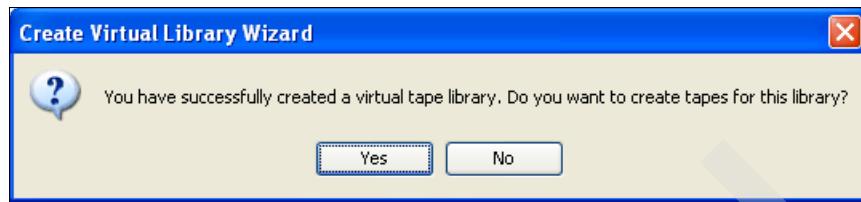

Figure 6-44 Cached virtual library creation: create virtual volumes
11. To create virtual volumes, click **Yes** on the panel shown in Figure 6-44.